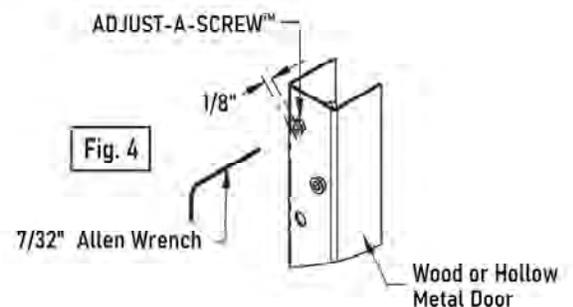

Fig. 4
3. Place a  $7/32"$  Allen wrench in opening of Adjust-A-Screw and turn Adjust-A-Screw into hole while keeping screw properly aligned (Fig 4).
4. Place a  $7/32"$  Allen wrench in opening of Adjust-A-Screw and turn Adjust-A-Screw into hole while keeping screw properly aligned (Fig 4).
A. Attaching hinge to door (Fig 4).